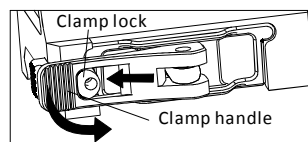

Fig 3-1
- Designed with our patented nonlinear cam clamping system, no tools are required for attaching to a rail. Push locking button, lift up handle to loosen the locking bar. To mount sight on rail, push the handle down, locking button will automatically engage. The installation is complete. (see fig 3-1)